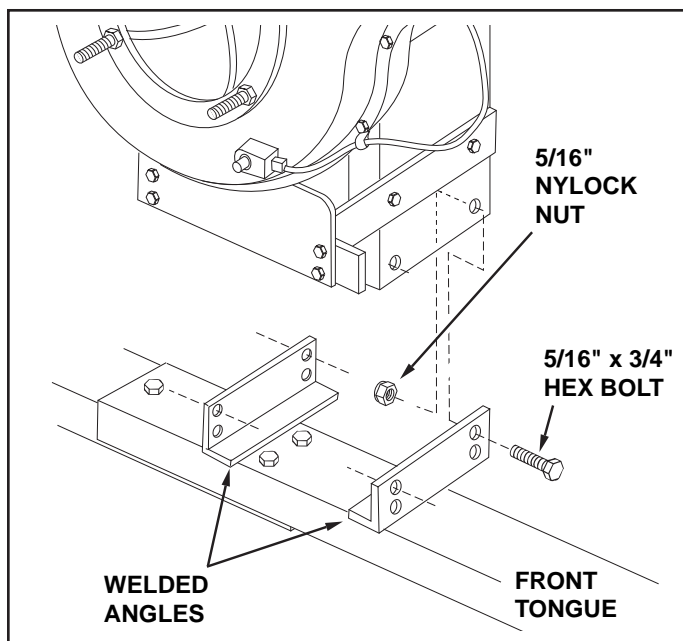

FIGURE 16
28. Attach the engine/impeller housing assembly to the **upper** holes in the angles welded to the tongue. Use four 5/16" x 3/4" hex bolts and 5/16" nylock nuts. **Tighten.** See figure 16.
- b. Loosen by approximately 1/4 turn each, the four bolts that you assembled in figure 16.